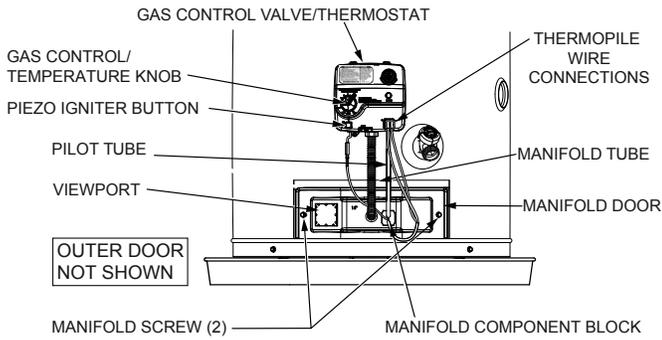

FIGURE 40.
8. Remove the screws (1/4" SAE nut driver) securing the manifold/burner assembly to the combustion chamber. See Figure 40.
2. Inspect the viewport for damage and replace as required (Figure 40).